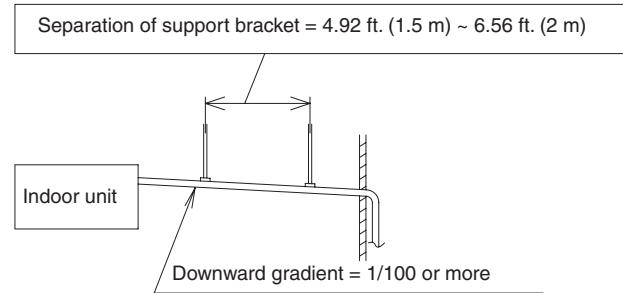

Fig. 1-126
- Make sure the drain pipe has a downward gradient (1/100 or more; downward from drain port connection). (Fig. 1-126)